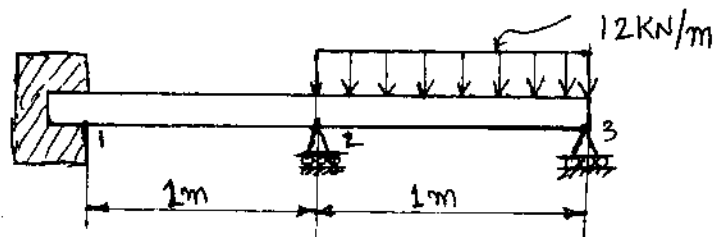

Fig.Q7(b)
b. For the beam and loading shown in Fig. Q7(b), determine the slopes at 2 and 3, vertical deflection at the mid points of the distributed load. Take $E = 200 \text{ GPa}$, $I = 4 \times 10^6 \text{ mm}^4$. (12 Marks)